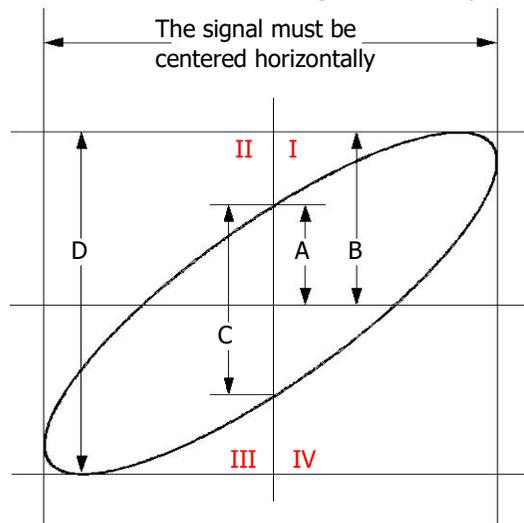

Figure 3-2 Measurement Schematic Diagram of Phase Deviation
5. Observe the measurement result shown in the figure above. According to the measurement schematic diagram of the phase deviation (as shown in Figure 3-2), $A/B (C/D) = 1$. Thus, the phase deviation angle $\theta=\pm\arcsin 1=90^\circ$.